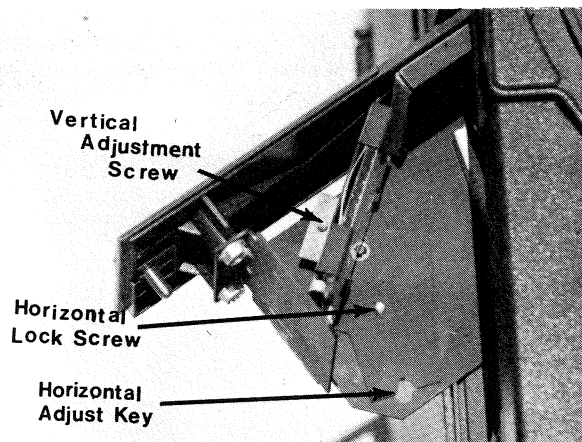

Figure 2-7. LAMP MIRROR ADJUSTMENTS
6. Open lamphouse door and adjust mirror (Figure 2-7) so that the dark center filament image is in approximate center of the bright circle.